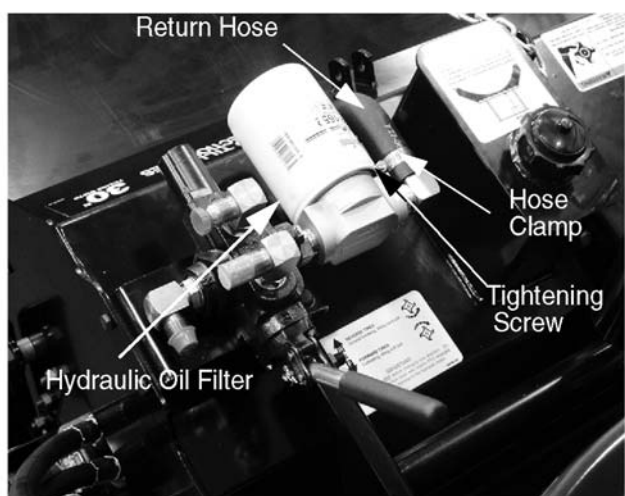

Figure 8-83.
3. Loosen the hose clamp that secures the return hose to the reservoir. It may be necessary to remove the filter if it is blocking access to the tightening screw on the hose clamp. See Figure 8-83.